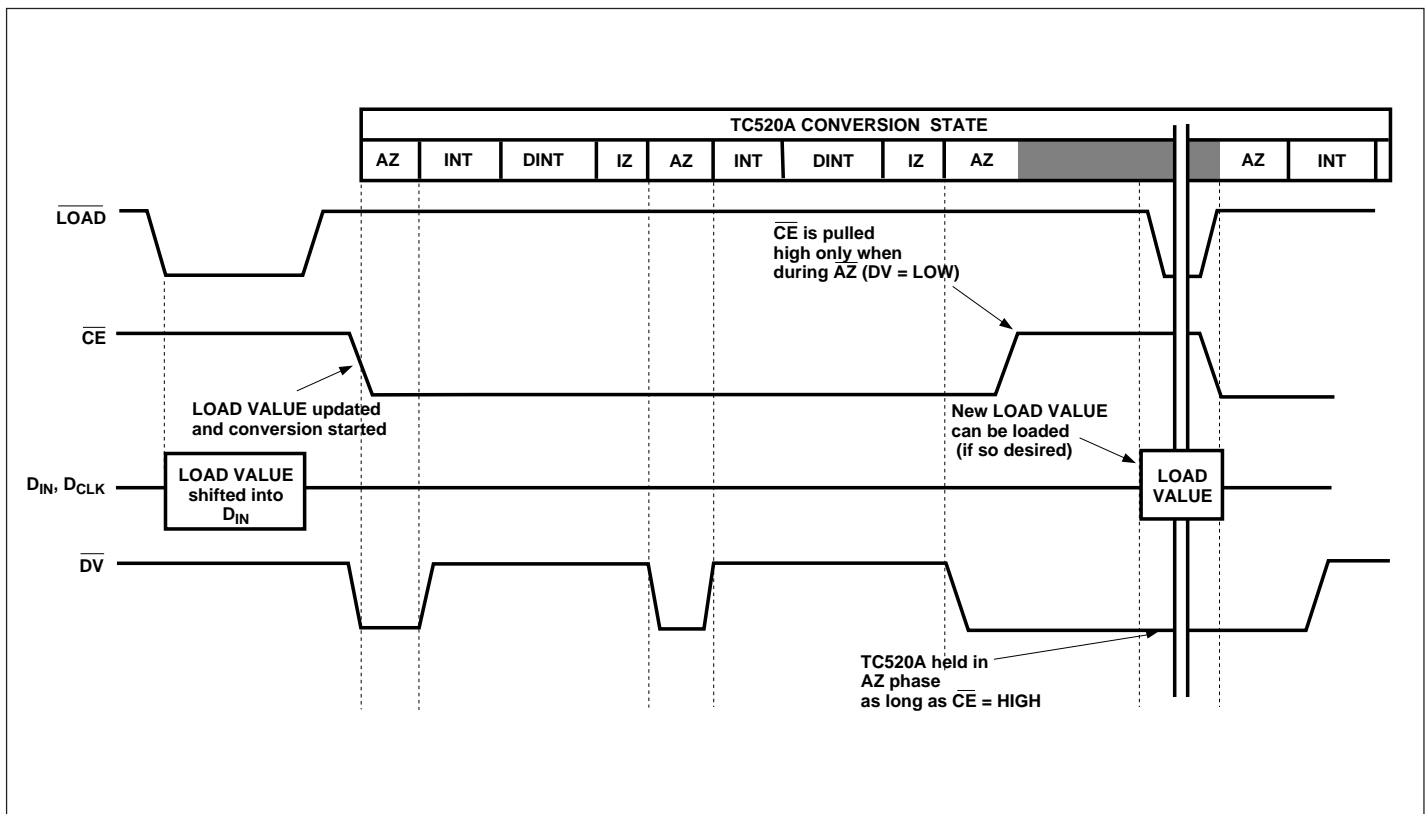
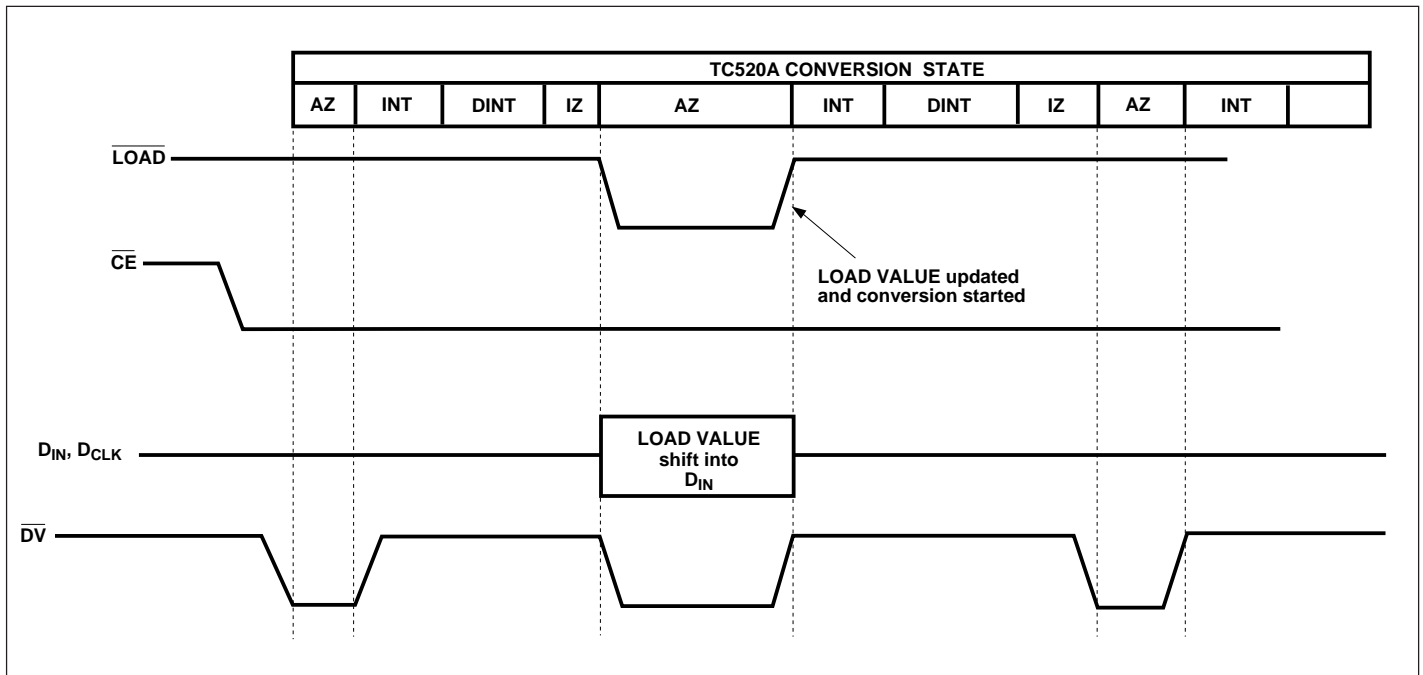

Figure 1. TC520A Initialization and Start/Stop Conversion Timing Relationships
Figure 2. Load Value Modify Cycle
A, B have been sequenced through the required 4 phases of conversion: Auto Zero (AZ), Integrate (INT), De-integrate (D_{INT}) and Integrator Zero (IZ) (See Figure 1). The Auto Zero phase compensates for offset errors in the TC5xx A/D converter. The integrate phase connects the voltage to be converted to the TC5xx A/D converter input (resulting in an integrator output dv/dt directly proportional to the magnitude of the applied input voltage). Actual A/D conversion (counting) is initiated at the start of the D_{INT} phase and terminates when the integrator output crosses 0V. The integrator output is then forced to 0V during the IZ phase and the converter is ready for another cycle. Please see the TC500/500A/510/514 data sheet for a complete description of these phases.
a range of $AZ = INT = 256$ counts to 65536 counts). (See Figure 2). The LOAD VALUE sets the number of counts for both the AZ and INT phases and directly affects resolution and speed of conversion. The *greater* the number of counts allowed for AZ and INT; the *greater* the A/D resolution, but the *slower* the conversion speed.
In this example, $\text{LOAD VALUE} = 128_{(10)} = 10\text{H}$. Therefore, a LOAD VALUE of 10H is loaded to the TC520A. If the desired T_{INT} was 100msec instead of 131msec, the LOAD VALUE would be 9EH, and so on. The TC520A LOAD VALUE must be initialized on power-up, and can be re-initialized as often as desired thereafter. This is accomplished by bringing the LOAD input low while transmitting the appropriate LOAD VALUE to the TC520A as shown in Figure 1 and Figure 2.